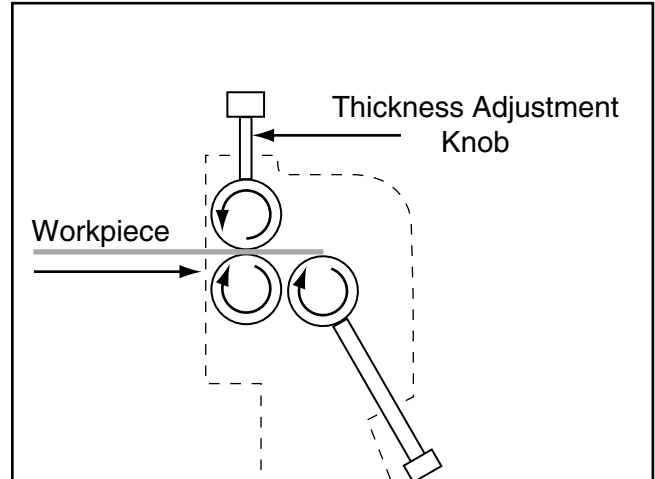

Figure 16. Workpiece inserted between top and bottom roller and centered over rear roller.
2. Insert workpiece between top and bottom rollers and just over rear roller, as illustrated in **Figure 16**.